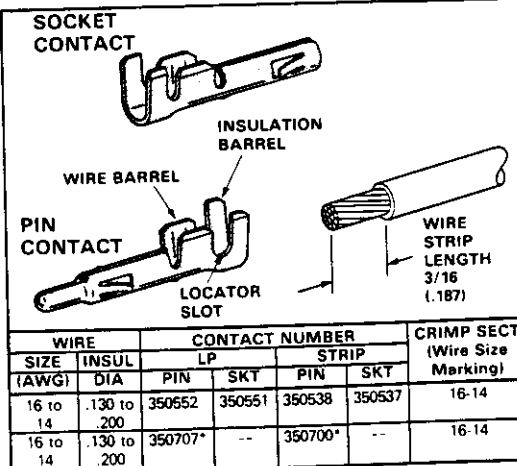

Fig. I-2
AMP Hand Crimping Tool 90299-1 is designed to crimp the AMP Universal MATE-N-LOK ★ loose-piece (LP) pin and socket contacts listed in Figure I-2. Read these instructions thoroughly before crimping any contacts.
The locator/insulation stop has two functions. First, it positions the contact between the crimping dies, and second, it aids in locating the wire in the contact. In use, it rests in the locator slot of the contact (see Figures I-2 and I-3).
Refer to the chart in Figure I-2, and select wire of the specified size and insulation diameter. Strip the wire to the length indicated — do NOT cut or nick the wire strands.